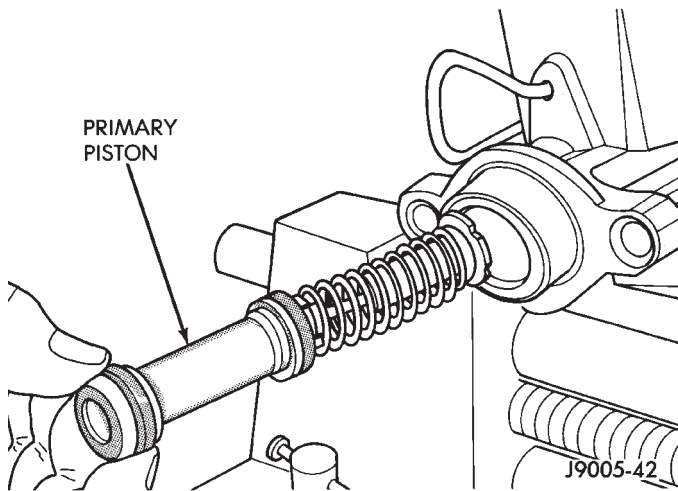

Fig. 3 Removing/Installing Primary Piston
- (5) Remove and discard primary piston (Fig. 3). Piston is serviced only as an assembly.
- (3) Insert primary piston in bore (Fig. 3).